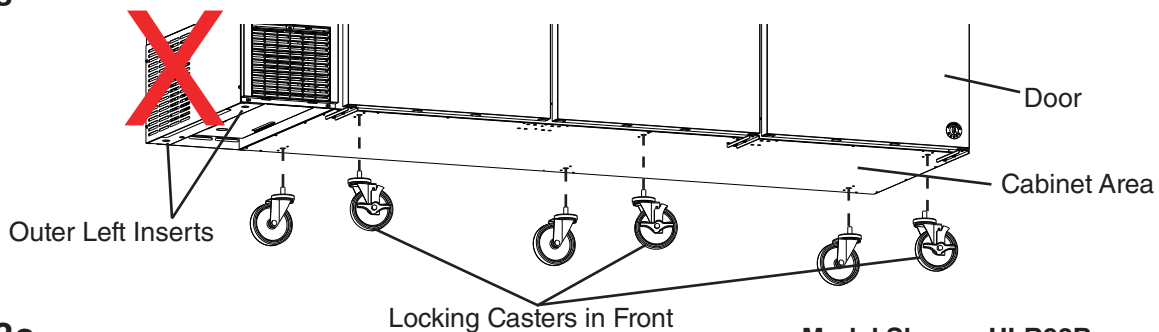

Fig. 3c
- c) **XLX93B(-DX):** Attach the 6 casters under the cabinet area. See Fig. 3c. **WARNING! Do not attach the casters under the compressor area in the outer left inserts.** **NOTICE! Ensure casters are completely threaded into appliance and tight.**